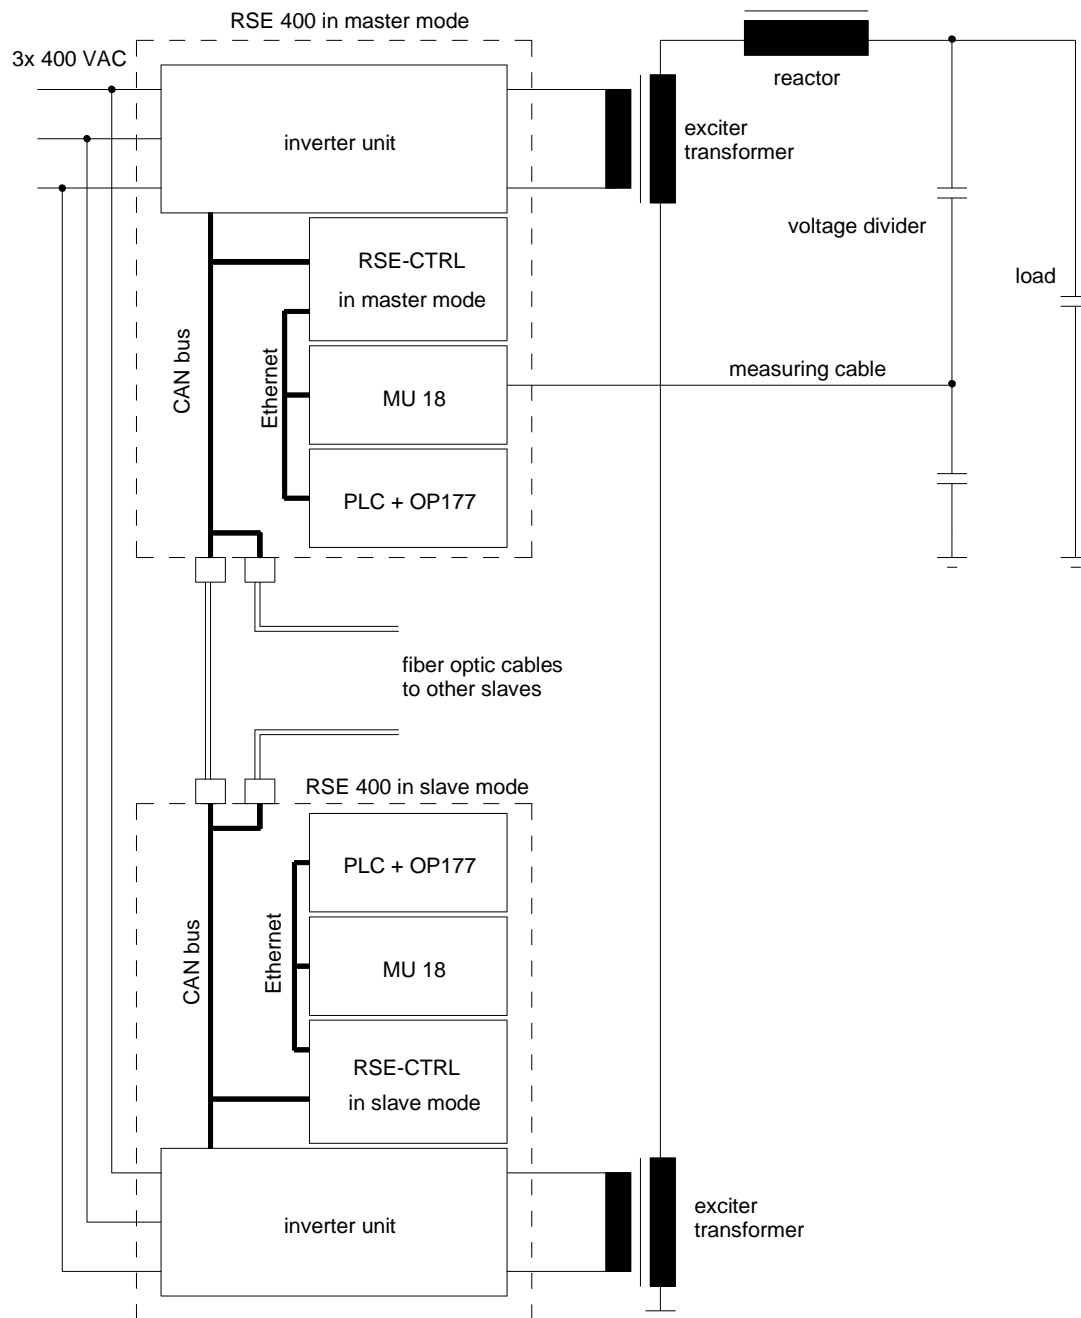

Fig. 31: Interconnected operation of two RSE 400 (representation without safety loops)
In this mode, one RSE unit operates as master, and all the other ones as slaves. All control functions are performed by the RSE 400 (800) operating as master. The slave units only operate as pure inverter units. Their peak-voltage measuring instrument, PLC and operating panels do not have any control functions. The control module RSE-CTRL in the master RSE controls all external inverter units in the same way as its internal inverter unit(s). The RSE-CRTL controller modules in the slave RSE are switched to "Slave" mode, meaning that they only receive data at the CAN bus as passive receivers, but can no longer send data. The PLC and the operator panel in the slave units also operate in a mode in which they can not influence the test. Fig. 31 shows the interconnection of two RSE 400 in master-slave mode.